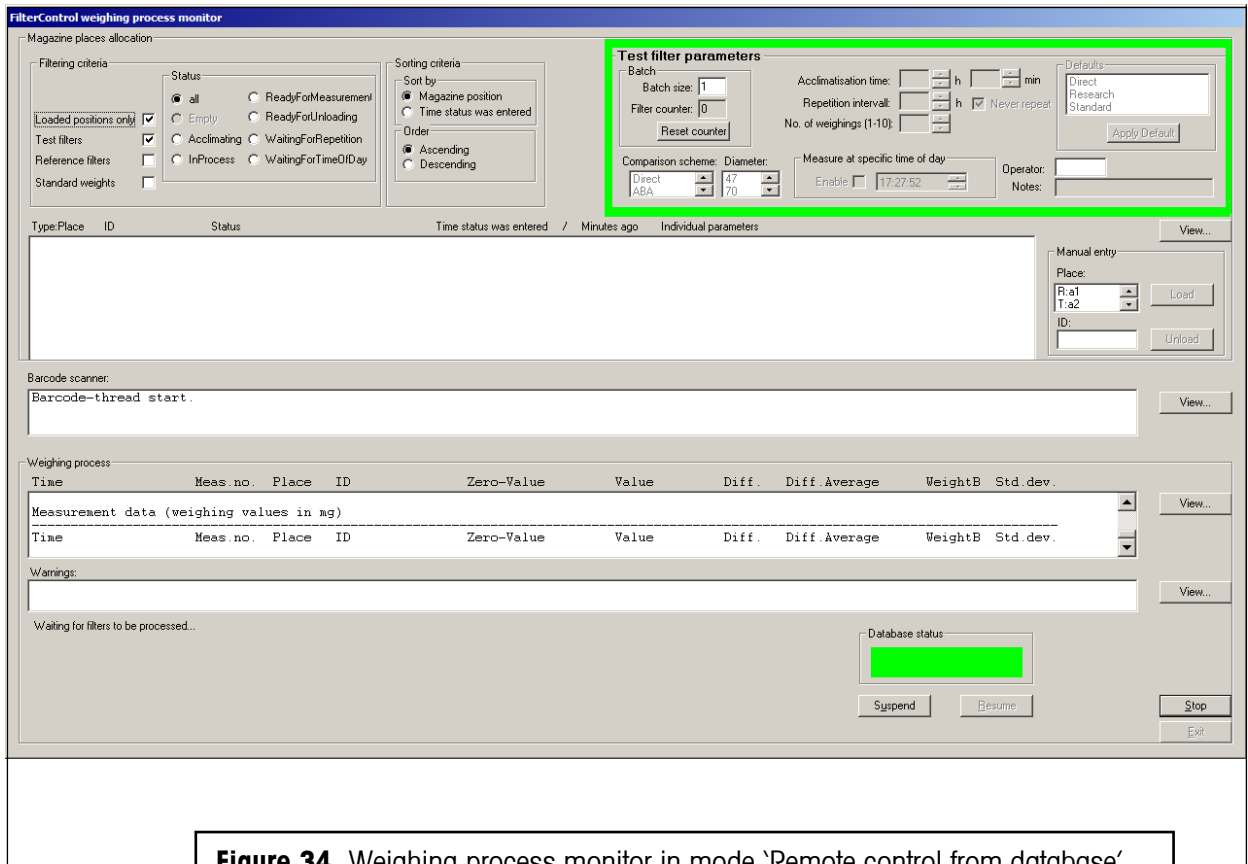

Figure 34 Weighing process monitor in mode 'Remote control from database'
- Start the measurement, the 'weighing process monitor' will be shown in a special mode (see Figure 34): The 'test filter parameter' area will be disabled, except the 'Batch size' and the 'Operator'-entries. However, before loading a test filter, you still have to enter the 'Operator'-value, and you can use the 'Batch size' feature to re-use this input for a batch of test filters.